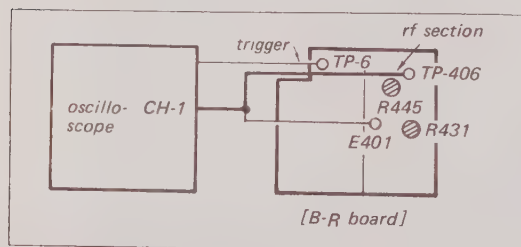

Fig. 8-5. Y pb output test setup
1. Connect the scope to TP-406 on the B-R (R-F) board. See Fig. 8-5.
4. Adjust R445 for a reading of 0.2V (p-p). See Fig. 8-5.